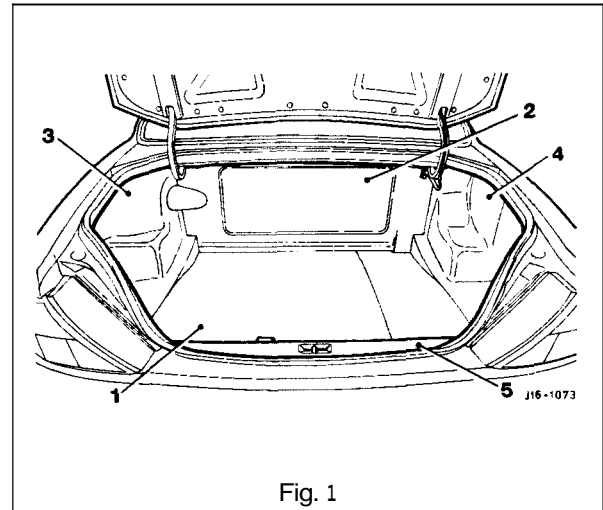

Fig. 1
The trunk houses the spare wheel, the battery, an electrical carrier containing electrical fuses, relays and modules and a compact disc auto-changer attached to body bracketry. The trunk is fitted with push-fit, velour finish, liners (1 Fig. 1) to the sides and front inner panel; the trunk floor is covered with carpet attached to a removable floor board (2 Fig. 1) and a battery cover (3 Fig. 1), one covering the spare wheel and wheel changing equipment, the other covering the battery and electrical carrier.
A tread plate (4 Fig. 1) is attached to the trunk sill and a liner is fitted to the rear of the trunk below the sill. Interior trim finisher panels are fitted to the rear lamp units accessed from the trunk opening.
The trunk lid (5 Fig. 1) is fitted with a removable moulded liner and two trunk illumination lights; the lid is supported by two gas struts, attached through press-on fittings between the inner wheel arch and trunk hinge (6 Fig. 1). A warning triangle is attached by a bracket to the trunk lid and retained in the open position by a rubber block (Europe inc UK only).
- Remove the trunk floor carpet (1 Fig. 1), see subsection 13.4.4.
- Remove the trunk front liner (2 Fig. 1), see subsection 13.4.5.
- Remove the trunk seal retainer (5 Fig. 1), see subsection 13.4.6.
- Displace and remove the trunk side liner (3 Fig. 1), passing the fuel filler manual release cable through the liner.
- Displace and remove the trunk side liner (4 Fig. 1).